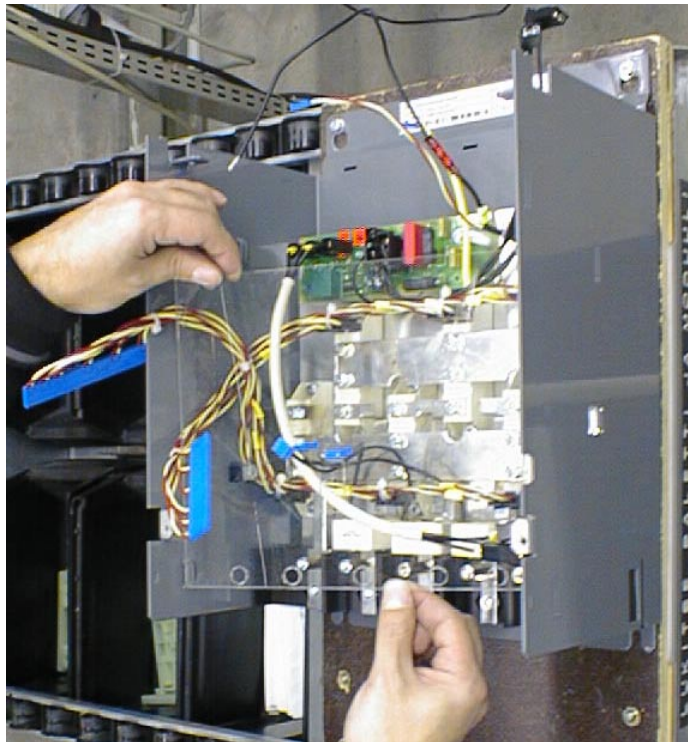
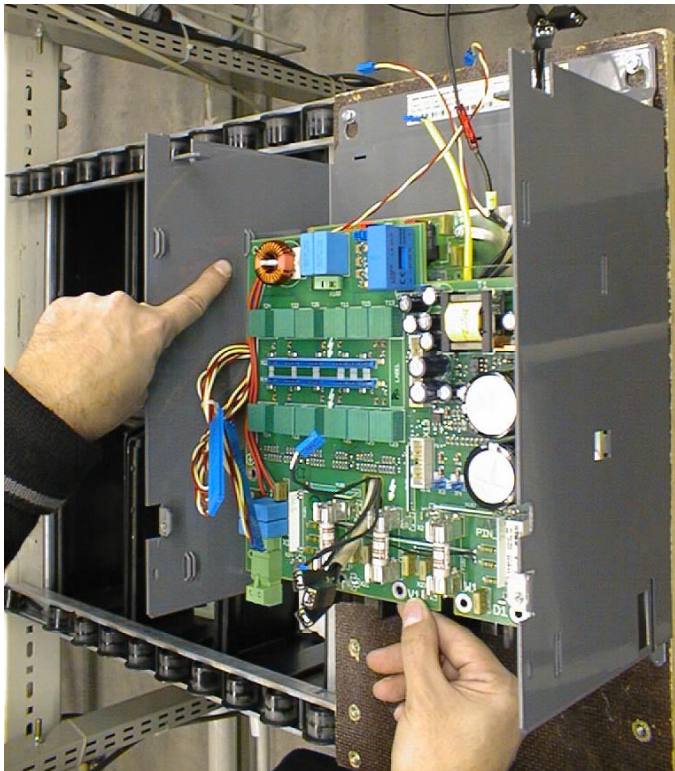

Figure 5-6 The transparent plastic insulation
Figure 5-7 Positioning of the PIN-board
- shift the power interface board together with the transparent plastic insulation (see Figure 5-6) towards the bottom of the converter and detach the connector X6 from the field exciter unit (FIS-board).
6. Push the transparent plastic insulation (*Figure 5-6*) and the PIN-board back into place (see *Figure 5-7*), if they were not removed completely. Otherwise put them back in place. Reattach the connector X6 from PIN-board to FIS-board. Ensure that the connecting cables for the connectors X1, X2, X7 as well as X3, X4, X5 are led through the corresponding holes or slits to the front of the PIN-board.